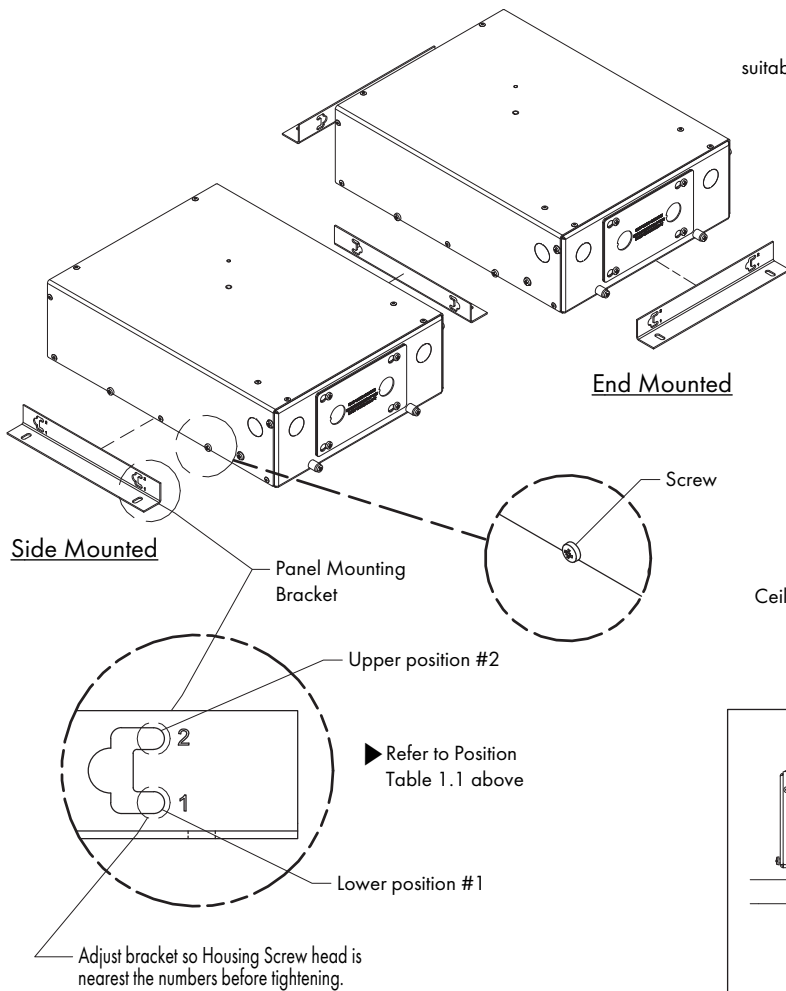
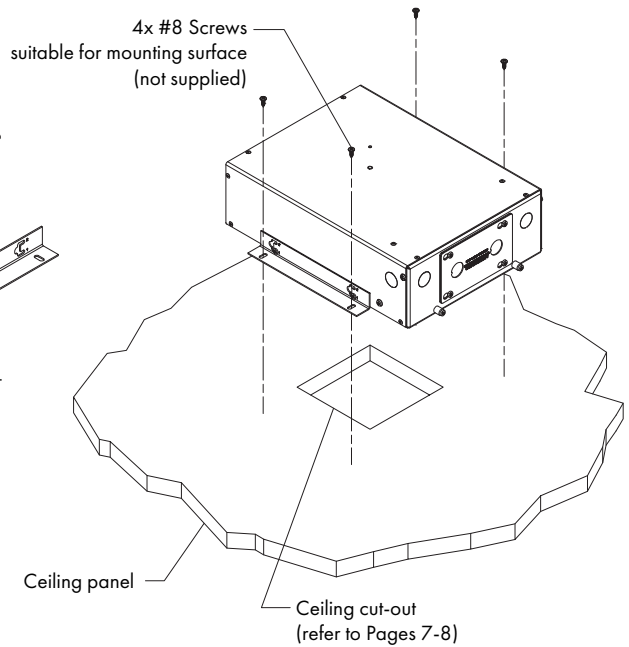

FIG 4.1 Install Panel Mounting Brackets
FIG 4.2 Panel Mounting Bracket Position
STEP 1 Select upper or lower Bracket position (refer to Panel Mounting Bracket Position - **Table 4.1** & attach 2x Panel Mounting Brackets to Housing as shown using screws supplied with Housing (use side or end mounting locations as needed) - **FIG 4.1** & **FIG 4.2**
STEP 2 Locate & cut hole in ceiling panel (refer to Trim types and hole sizes specified on (Pages 7-8) - **FIG 4.1**.
STEP 3 Align Housing so aperture is centered in ceiling cut-out & secure Panel Mounting Brackets to panel using 4x Screws suitable for mounting surface (not supplied) - **FIG 4.1**.